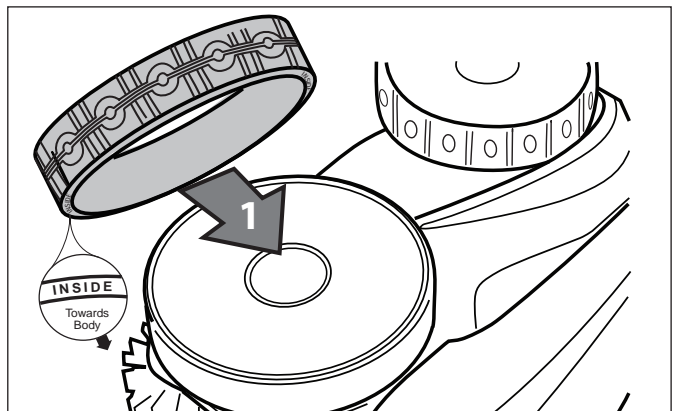

Figure 33. Tire Replacement Orientation
- To replace the tire, position the tire on the wheel making sure to orient the tire so that the word **INSIDE** is toward the body of the cleaner (Figure 33).